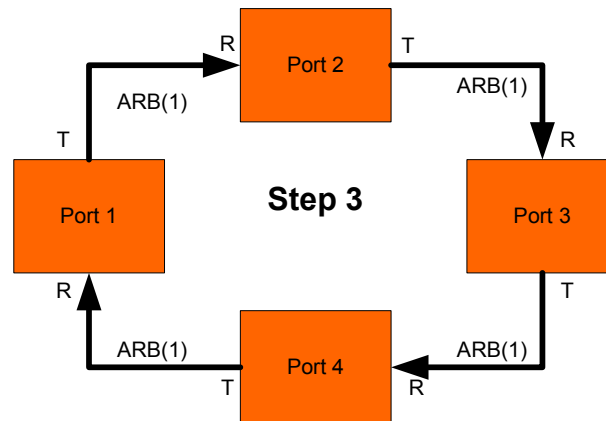

Figure 27 Arbitration Step 3
In **Step 3** (Figure 27), once the ARB(1) is received by port 2 it changes its current fill word to ARB(1) and the ARB(1) is transmitted to the next port on the loop. The current fill word on the remaining ports is